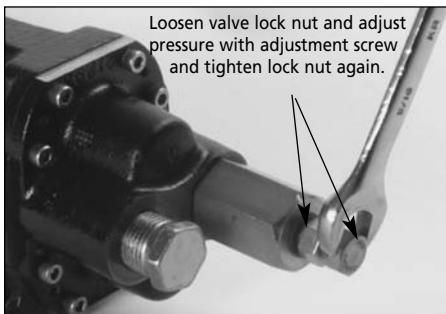

Figure 6 - Pressure Relief Valve Adjustment
7. To increase the pressure relief valve pressure setting, loosen lock nut (See Figure 12, Ref. No. 37), then turn the set screw (See Figure 12, Ref. No. 36) in (clockwise). Turning the set screw out (counterclockwise) will reduce the pressure setting. When desired pressure is achieved, tighten lock nut and reinstall protective cap (See Figure 6).